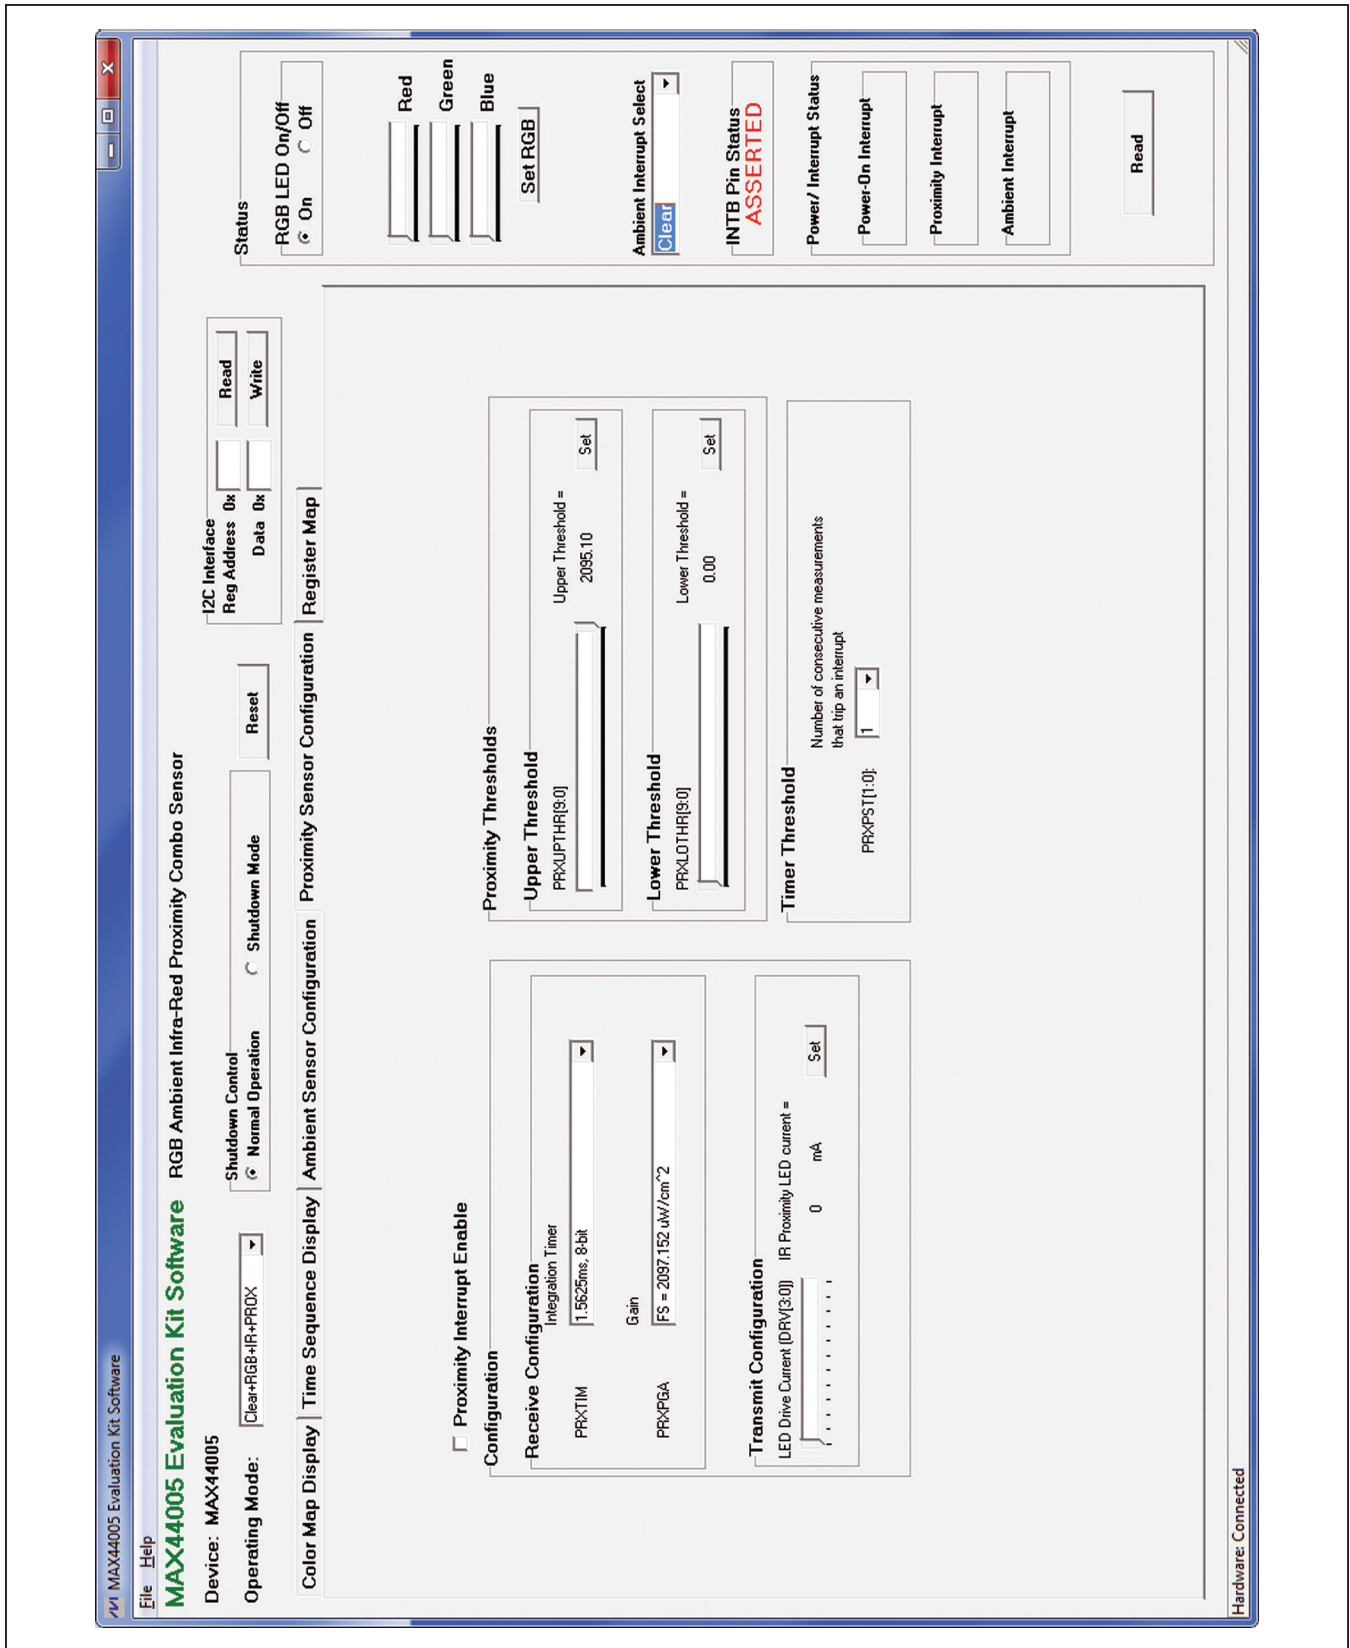

Figure 4. Proximity Sensor Configuration Tab
- 6) On the **Proximity Sensor Configuration** tab sheet (Figure 4), in the **Transmit Configuration** group box, use the **LED Drive Current (DRV[3:0])** track bar to set the IR LED current to 50mA. Press the adjacent **Set** button.
The **Proximity Sensor Configuration** tab sheet (Figure 4) has all the functions to configure the proximity sensor of the IC.